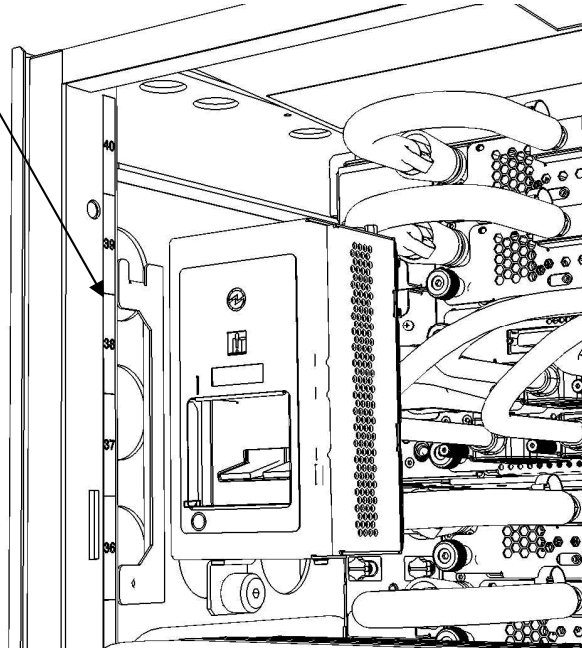

Figure 10 UEPO Service Position
- c. Reattach the UEPO Switch in the upper left corner of the rack in the service/shipping position. (see Figure 10).